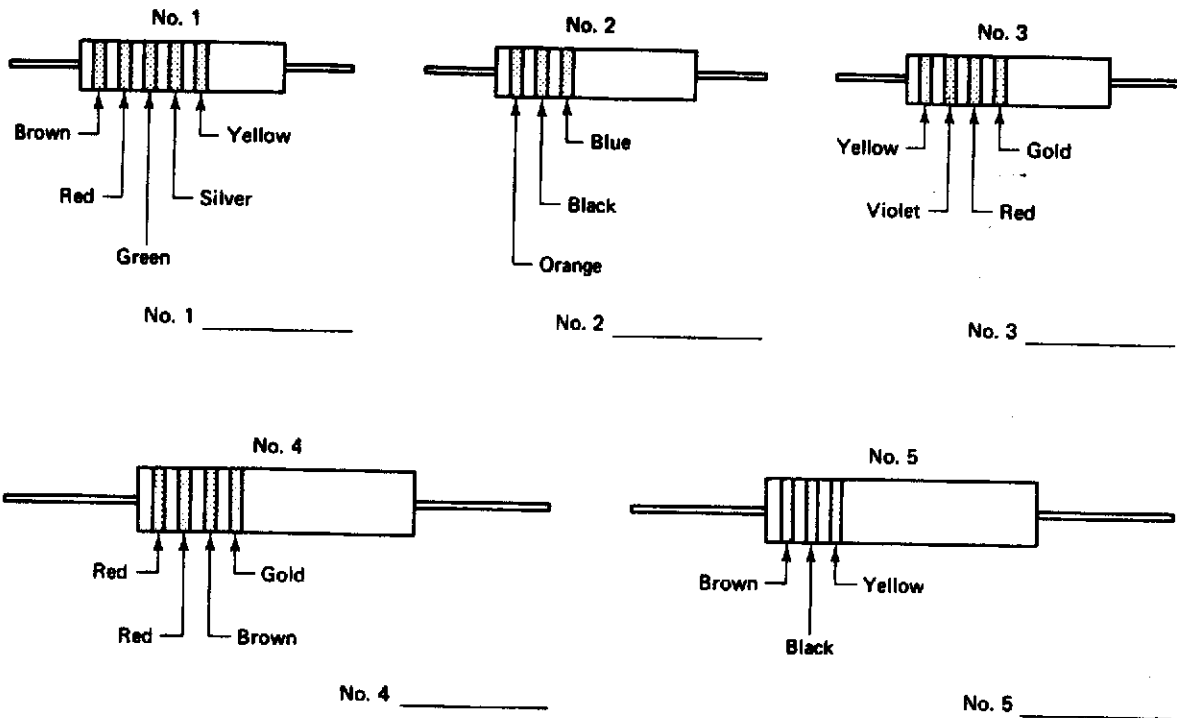

FIGURE 2-2C
4. In some instances, there is no fourth color indicated on the body of the resistor. When this condition occurs, you may automatically assume its tolerance to be 20%. Frequently no fifth color appears on the resistor. There is no accurate method of predicting failure rate without the manufacturer's specifications. In Fig. 2-2C, indicate the values of the illustrated resistors, listing the ohmic value, tolerance, and failure rate when applicable.
5. By now you should be able to determine the value and tolerance of any color-banded resistor by using the resistor table. Without the table, you might be helpless. Another way of determining the basic value of any color-coded resistor is to remember the following quote: "Big brown rabbits often yield great big vocal groans when gingerly slapped." The first letter of each word in this statement corresponds to the first letter of each of the 12 colors used in the color code. Also, the words of the statement may be counted, beginning with zero (0), to determine which word corresponds with each digit or the number of zeros to be added to complete the resistor's value. Using this quote, determine the values of eight resistors in your component package.